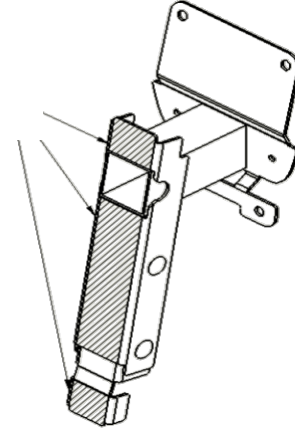

Figure 13
- d. With partner inside truck, install the (12) 1/4-20 x 1" hex bolts with flat washers through the drilled holes and backing plates CBPD/CBPP, and fasten with flat washers and locknuts on the inside – don't fully tighten yet.
- f. Tighten the (12) 1/4-20 x 1" bolts securely now.
- a. Apply silicone to center bracket faces (see figure 13)
- c. Fully extend all (3) LVM's